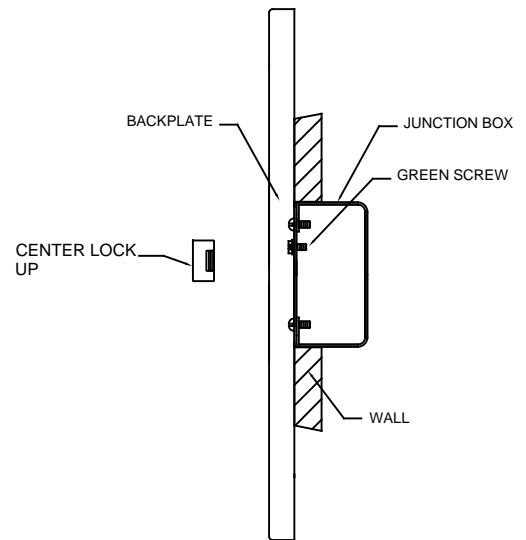

FIGURE-02
5. Attach the backplate to the mounting plate and secure it with center lock up. (See Figure-02)